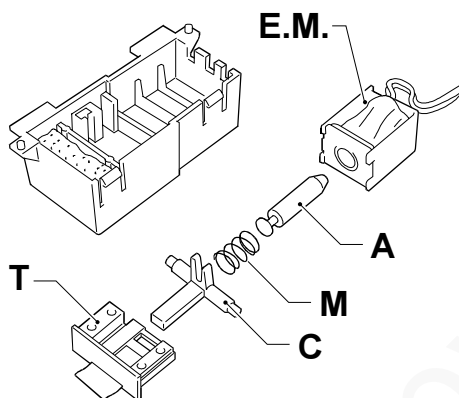

Fig. 7-24
- 3) Extract the components from the container (head cleaner **T**, slider **C**, spring **M**, armature **A**, **E.M.**) starting from the head cleaner (Fig. 7-24):